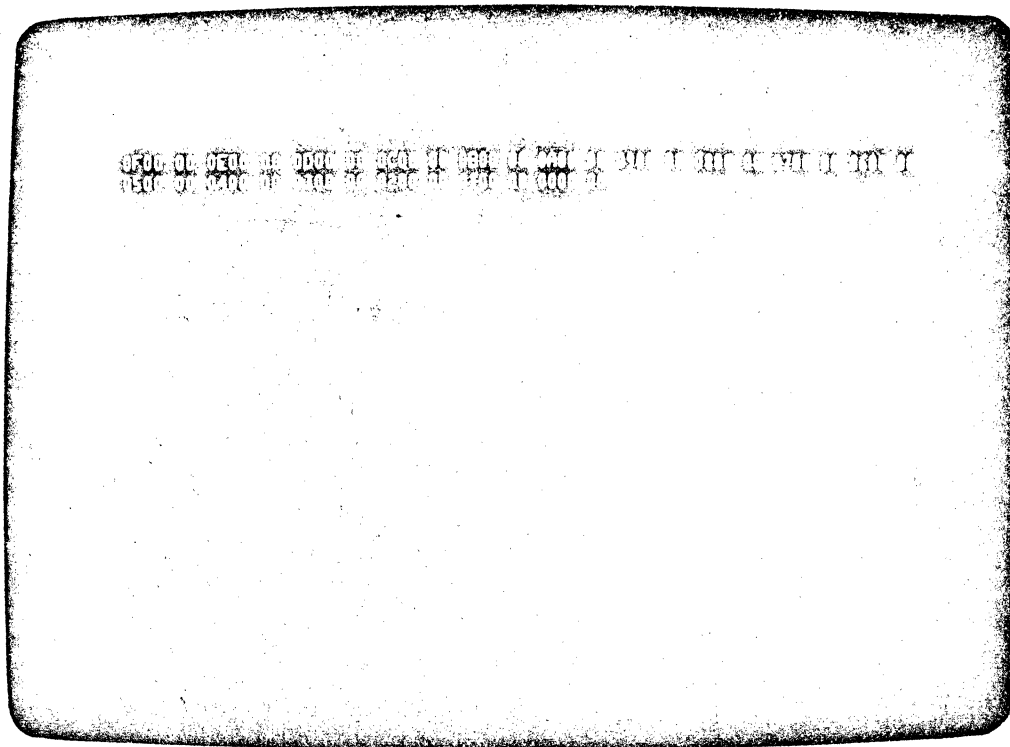

Figure CRT45. Checksum Display
- 5) If checksum display appears on screen (figure CRT45), proceed with adjustments (step 6); otherwise perform the following: